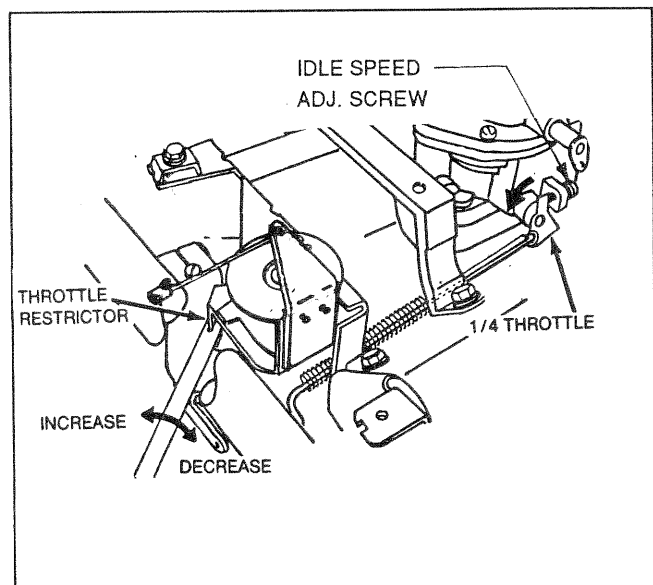

Figure 181. Bending the Throttle Restrictor Tang
- If the engine speed droops below about 57 Hertz when the load is applied, remove the electrical load. Then, bend the throttle restrictor tang (Figure 181) approximately 1/16 inch toward the "DECREASE" side.
- With load applied, recheck the frequency droop. If frequency droops below about 58 Hertz, remove electrical loads and bend the throttle restrictor tang (Figure 181) approximately 1/16 inch toward the "DECREASE" side.
- Hold the throttle against the low idle speed adjustment screw (Figure 181).